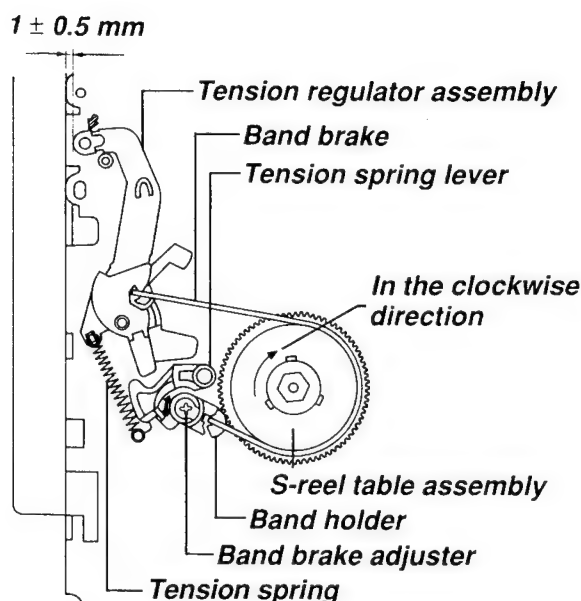

Fig. 5-2-1
4. Make sure the peripheral of the outset (shown by shaded arrow) of the tension regulator assembly is $1\text{mm} \pm 0.5\text{mm}$ away from the main base edge as shown in Fig. 5-2-1.